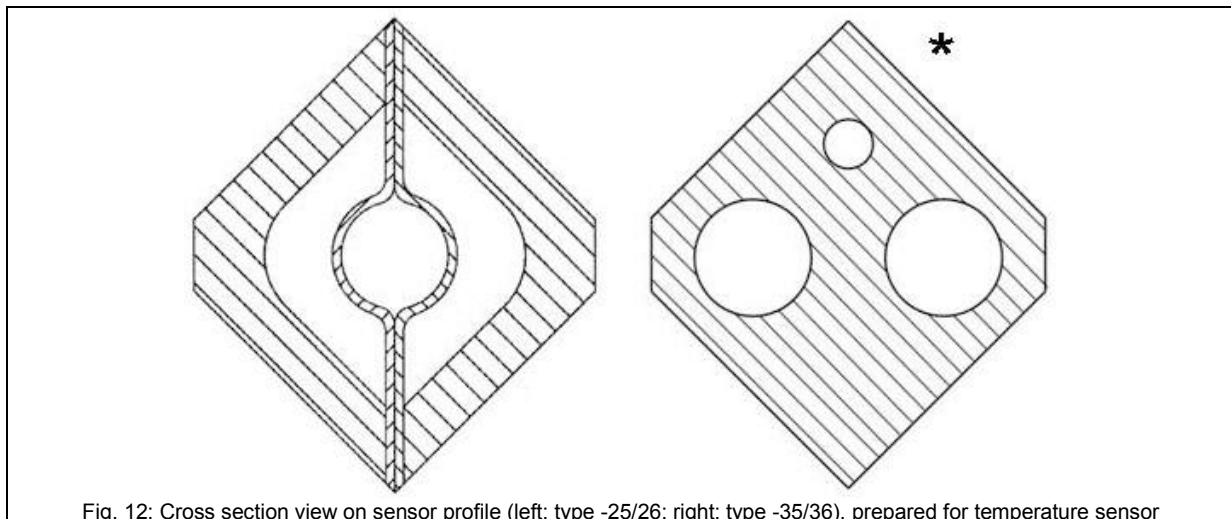

Fig. 12: Cross section view on sensor profile (left: type -25/26; right: type -35/36), prepared for temperature sensor
- The RTD is inserted into the sensor profile (Fig. 12, cross sectional view of sensor profile for RTD assembly) This design avoids the RTD to be wetted, also it is not exposed to operational pressure.